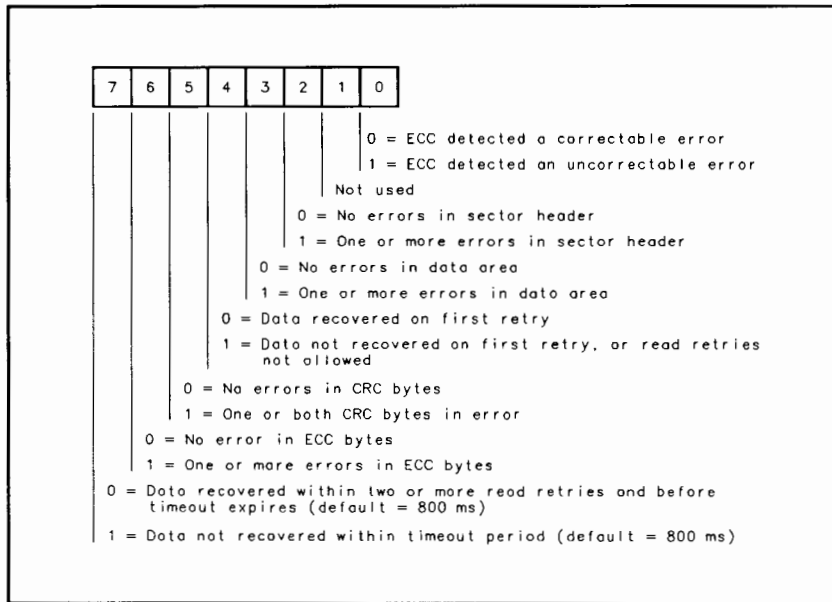

Figure 5-2. Contents of Run-Time Error Code Byte
RUN LOG	Each head returns up to 106 entries. The format for the Error Code Byte returned with each log entry is shown in Figure 5-2.
- The run-time log data error entries include only *uncorrectable* errors. The significance of the Error Code Byte returned with each run-time log entry is shown in Figure 5-2.